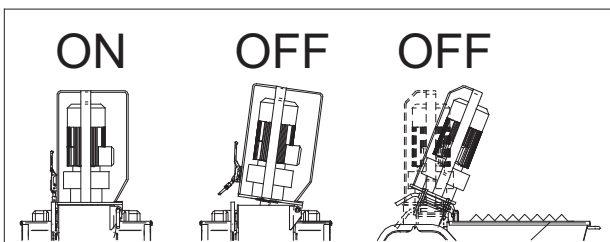

FIG.11
Secure the machine in place by means of the wheel brake (ref.5 fig.11).
⚠ - Opening of the mixing chamber causes shutdown of the machine moving parts (fig.11). First close the mixing chamber and press the start pushbutton to start the machine.